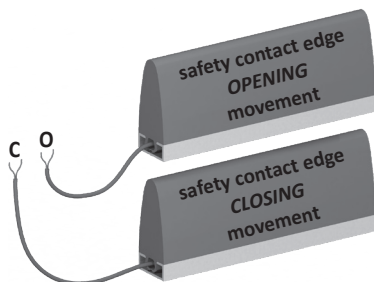

Figure 1: Connection at the coil core
8.1 Connecting to the coil core SPK 54 (figure 1)